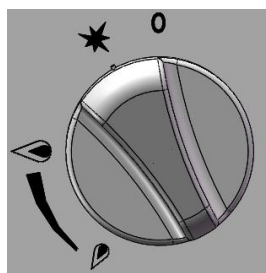

Fig. 3
②And then axial press the front air valve knob, left 30 degrees, to the fire position ★ (Fig. 3).
③At the fire position, completely press the knob, meanwhile light the fire by pilot with another hand. Keep pressing the knob about 10-15 seconds, and observe stability of fire.
④If the fire is not lit, please repeat the above steps until the fire is ignited.
①When the control knob is rotated to the fire position ★ (Fig. 3), the main fire burner flame is extinguished, but the pilot light will continue to work.
②Axial press the knob to rotate knob clockwise continually, so that the direction of the knob on the "0" position, at this time, the fire extinguished, the valve closed.